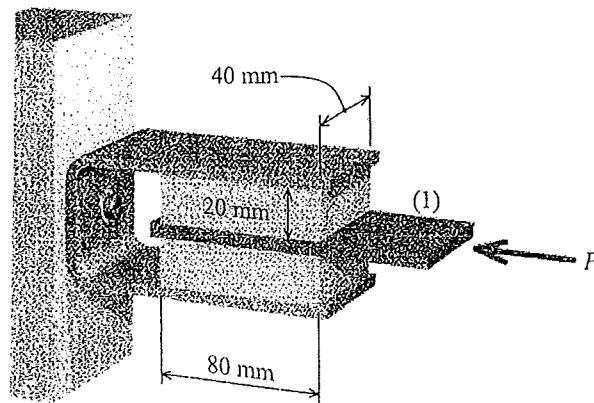

Figure 2
2. [a] Two blocks of rubber, each of 80 mm long by 40 mm wide by 20 mm thick, are bonded to a rigid support mount and to a movable plate (1) (Figure 2). When a force of $P=2,800\text{ N}$ is applied to the assembly, plate (1) deflects 8 mm horizontally. Determine the shear modulus, G of the rubber used for the blocks.